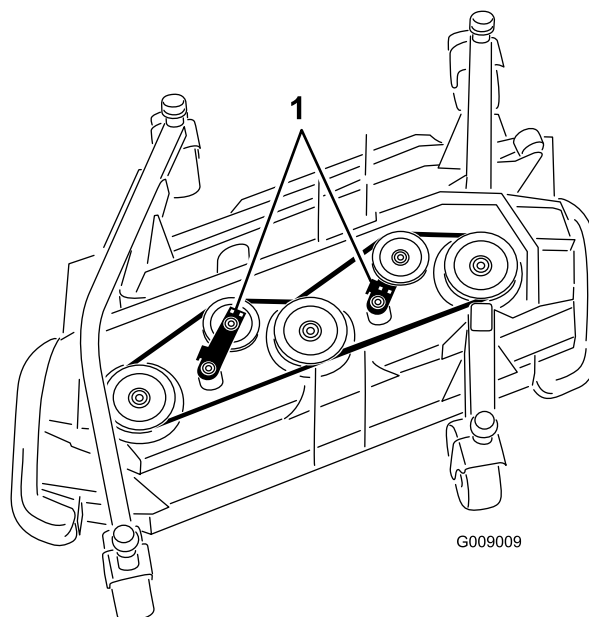

Figure 124
5. Using a ratchet wrench or similar tool, move the idler pulleys away from the drive belt to release the belt tension and allow the belt to slip off the pulleys (Figure 124).